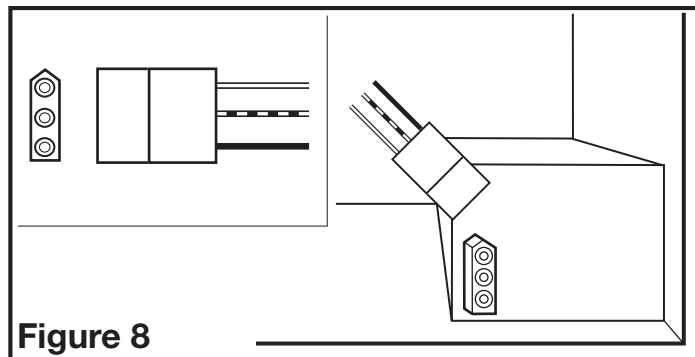

Figure 8
- Plug the fan's quick connect motor cord into the receptacle. This cord will only fit one way into the receptacle (**Figure 8**).